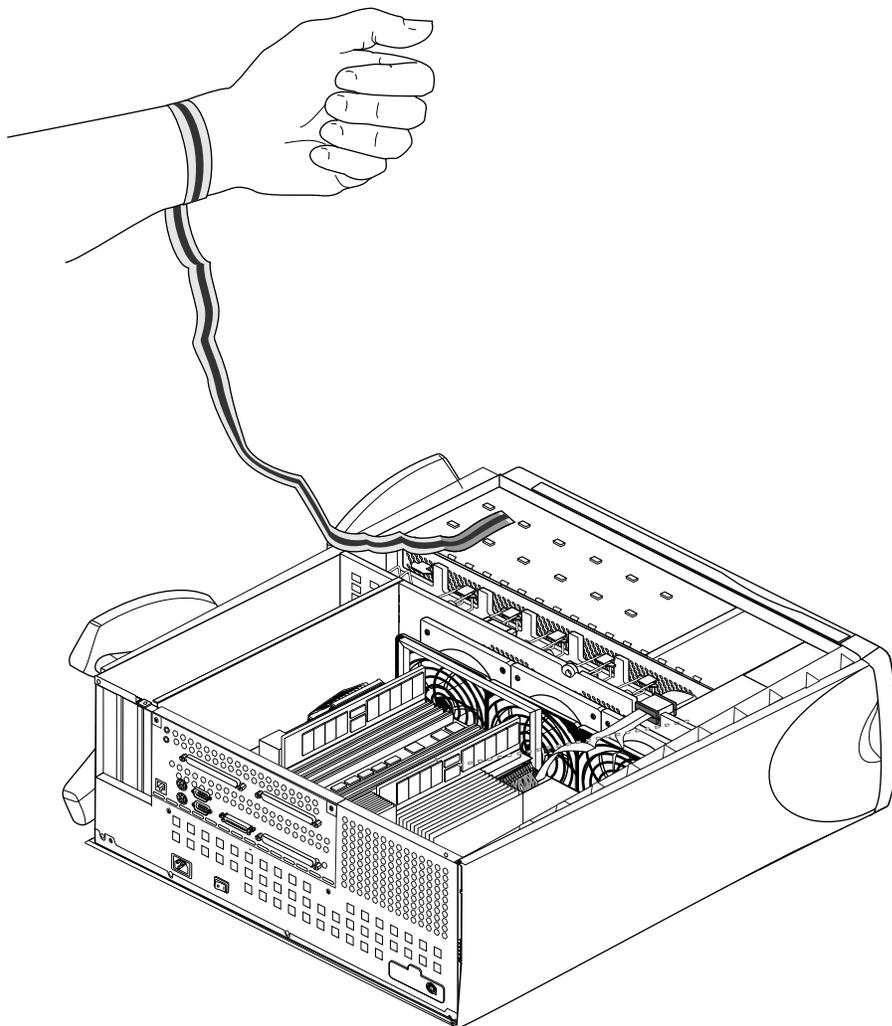

Figure 6-5 Attaching A Grounding Wrist Strap
4. Attach a grounding strap to your wrist. Figure 6-5 shows an example of a disposable grounding strap.